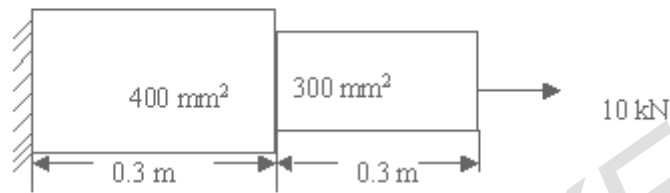

Figure 8
7. Determine the natural frequencies and mode shapes of a stepped bar as shown in figure 8 using the characteristic polynomial technique. Assume  $E = 250 \text{ GPa}$  and density is  $7850 \text{ kg/m}^3$ . [16]